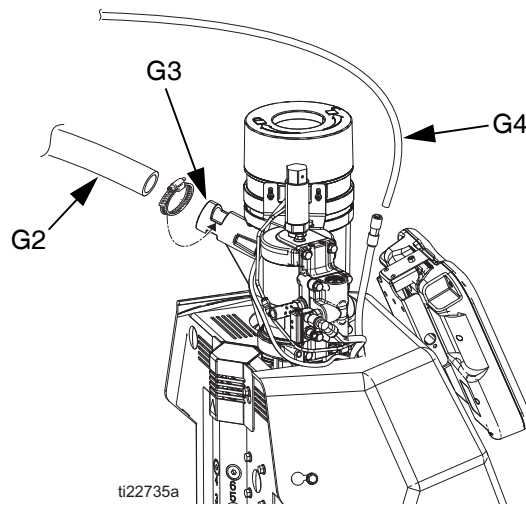

FIG. 8
4. Insert 1.3 in. (33 mm) OD clear vacuum transfer hose (G2) into vacuum transfer funnel (G3) inlet and secure with supplied hose clamp. The hose clamp should be placed over the cutouts in the funnel inlet where it can firmly hold the transfer hose. See FIG. 8.
5. Connect the long supplied 3/8 in. OD air line (G4) to the 3/8 in. push-to-connect fitting on the air line from the system. See FIG. 8.